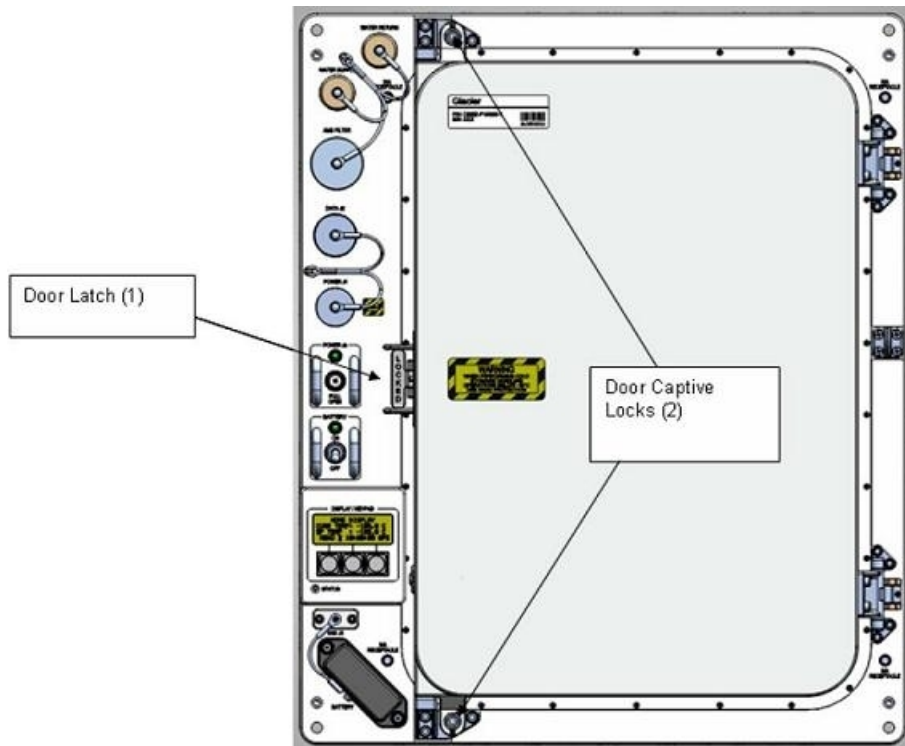

Figure 1. Glacier Configuration.
- 1.1 If door locked, then unlock Glacier Door Captive Locks (two) using 3/16" Hex Head, 3/8" Drive; 1/4" to 3/8" Adapter, 1/4" Drive; 4" Ext, 1/4" Drive; Ratchet, 1/4" Drive. See Figure 1 Glacier Configuration.